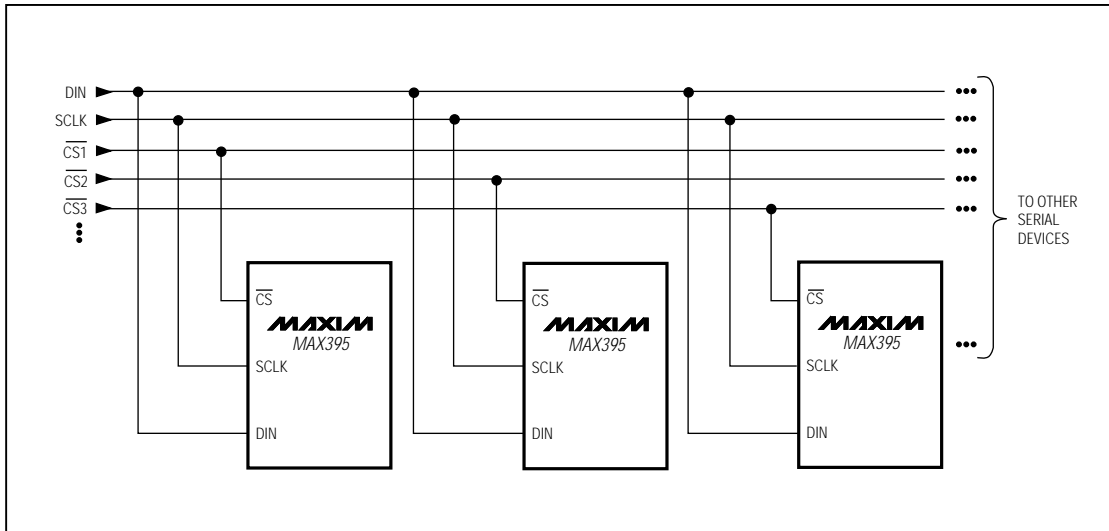

Figure 6. Addressable Serial Interface
**Note 6:** See Figure 6. Off isolation =  $20 \log_{10} V_{COM}/V_{NO}$ . VCOM = output. NO = input to off switch.